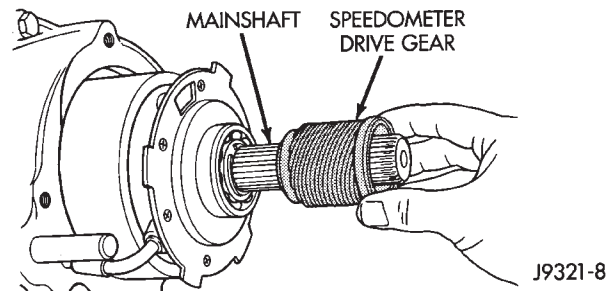

Fig. 92 Installing Speedometer Drive Gear
(5) Install speedometer drive gear (Fig. 92).